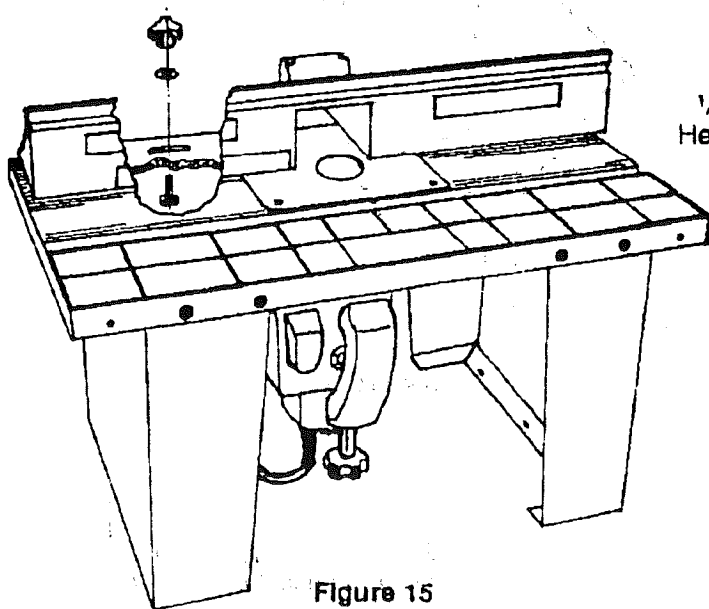

Figure 15
1. Assemble unitized fence assembly to table as shown in Figure 15.